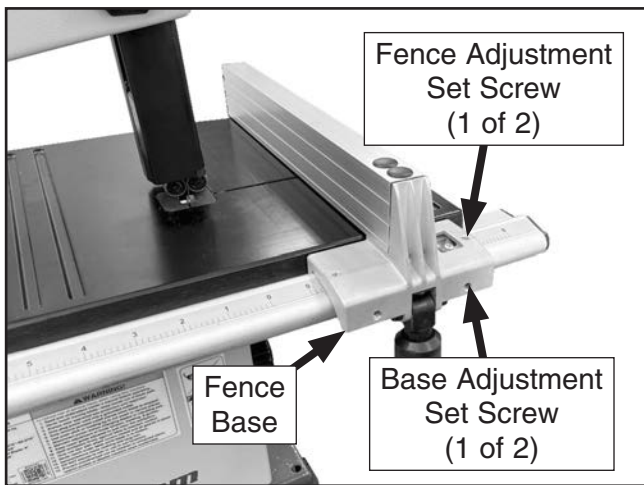

Figure 1. Location of fence and base adjustment components.
3. Adjust (2) fence adjustment set screws shown in **Figure 1** until fence is square to table.
2. Lock fence in place on rail and attempt to move fence base (see **Figure 1**).
3. Evenly tighten (2) base adjustment set screws shown in **Figure 1** until fence base does not move.